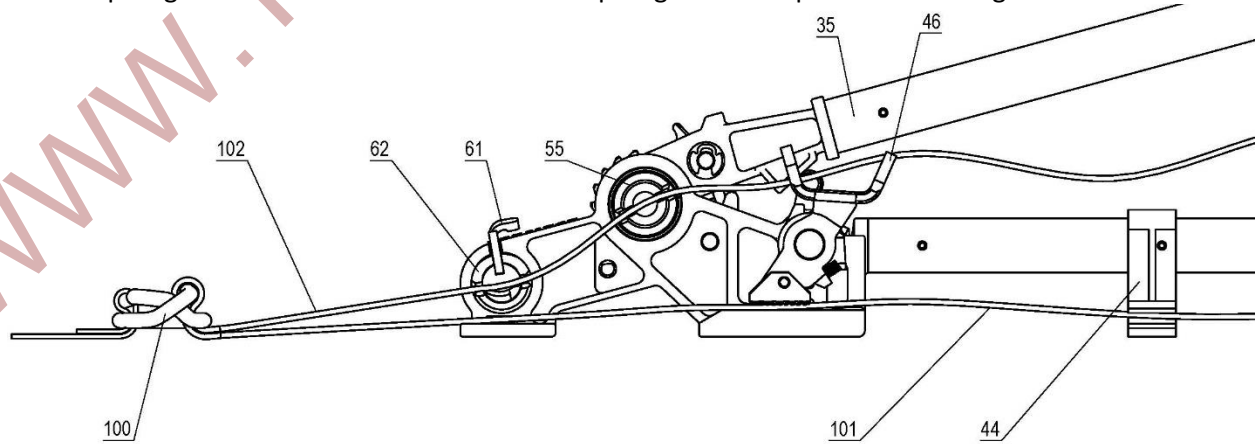
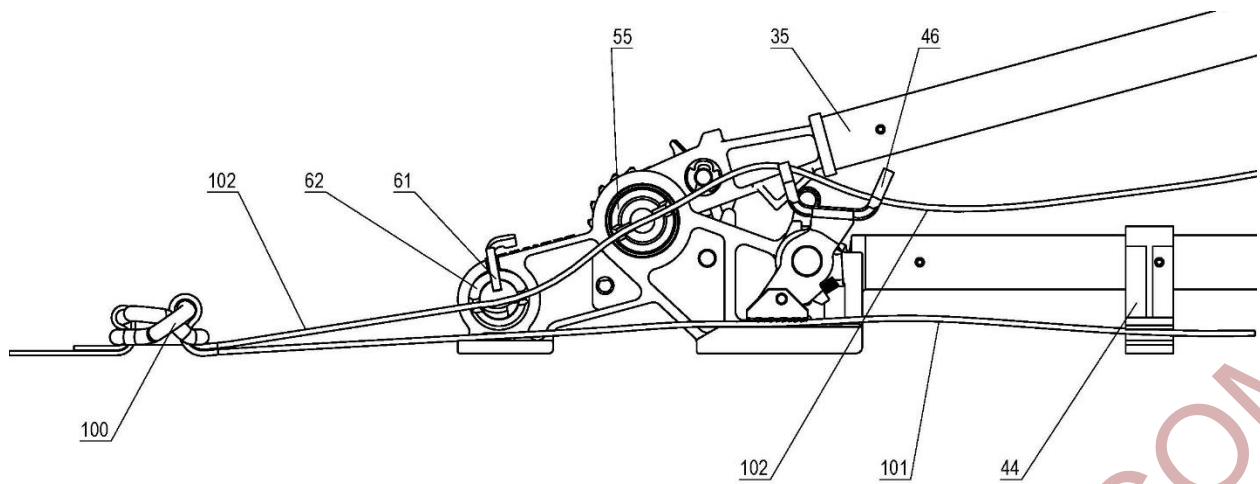

Fig. 3
Fig. 4
2. Press down on **Hook 61** and load upper strap **102** through **Cutter Housing 62**, through **Windlass 55**, under the first prong of **Guide 46** and over the second prong for 1.5" strap as shown on Fig. 3, or over the first prong of **Guide 46** and under the second prong for 2" strap as shown on Fig. 4.